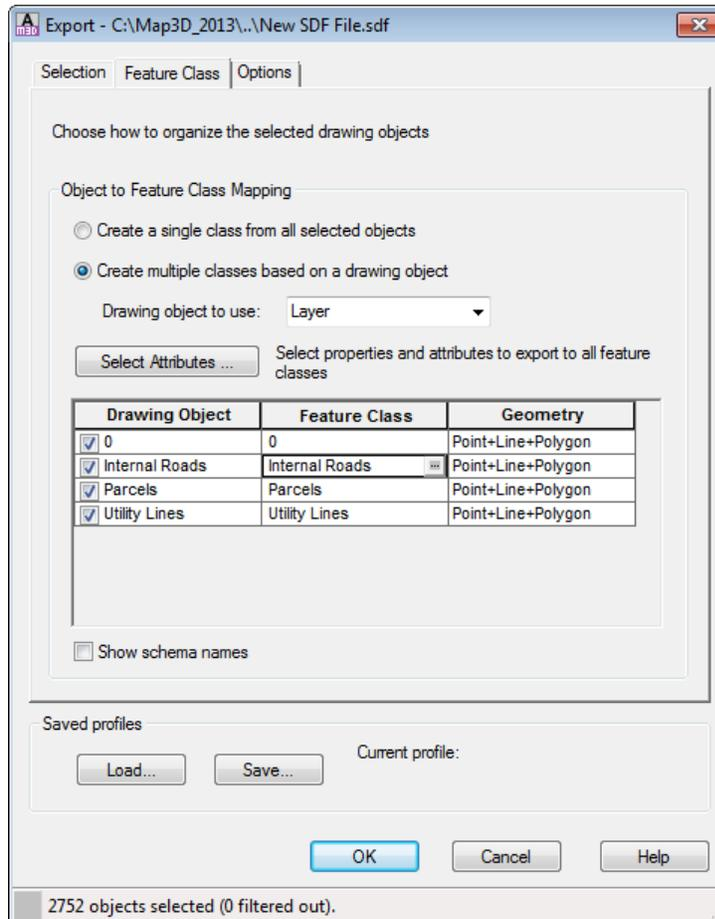

Figure 2-37 The browse button displayed in the **Internal Roads** cell
- Click in the cell that displays **Internal Roads** in the **Feature Class** column of the table; a browse button is displayed in the cell, as shown in Figure 2-37.